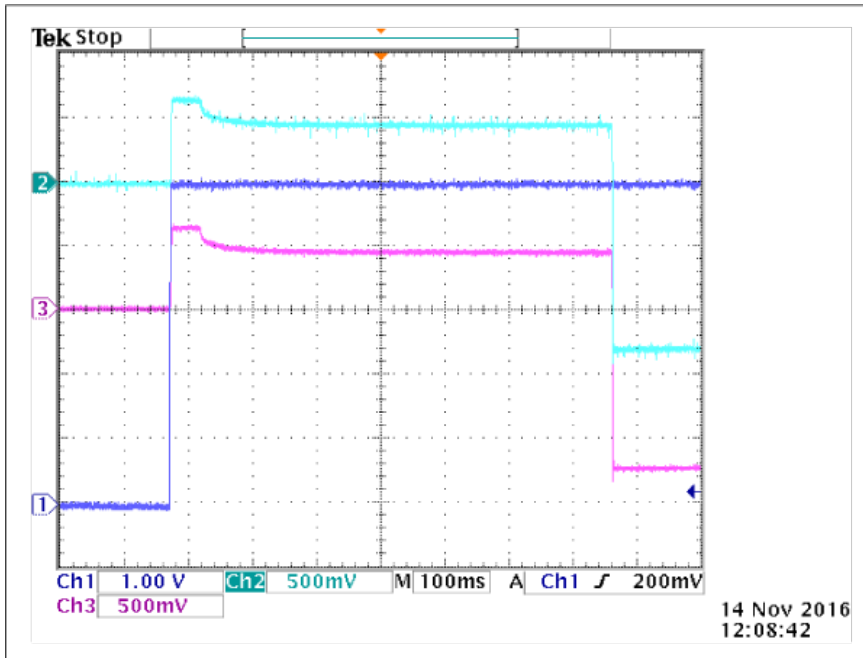

Figure 5. MAX5318 corrected power-up sequence. Ch1 = AVDD (TP11), Ch2 = AVSS (TP14), Ch3 = MAX664  $V_{OUT1}/V_{OUT2}$  (J6).
4. Disconnect the MAX664 SENSE pin from the MAX5318 AVSS pin by cutting a trace. This solution treats the symptoms of the problem, but does not solve the root issue of the positive voltage generated on AVSS. After power-on, a positive voltage that exceeds the absolute maximum voltage still arises; however, having SENSE disconnected achieves correct voltages levels 700ms after power-on. **Figure 5** displays the power-on sequencing when SENSE is disconnected.